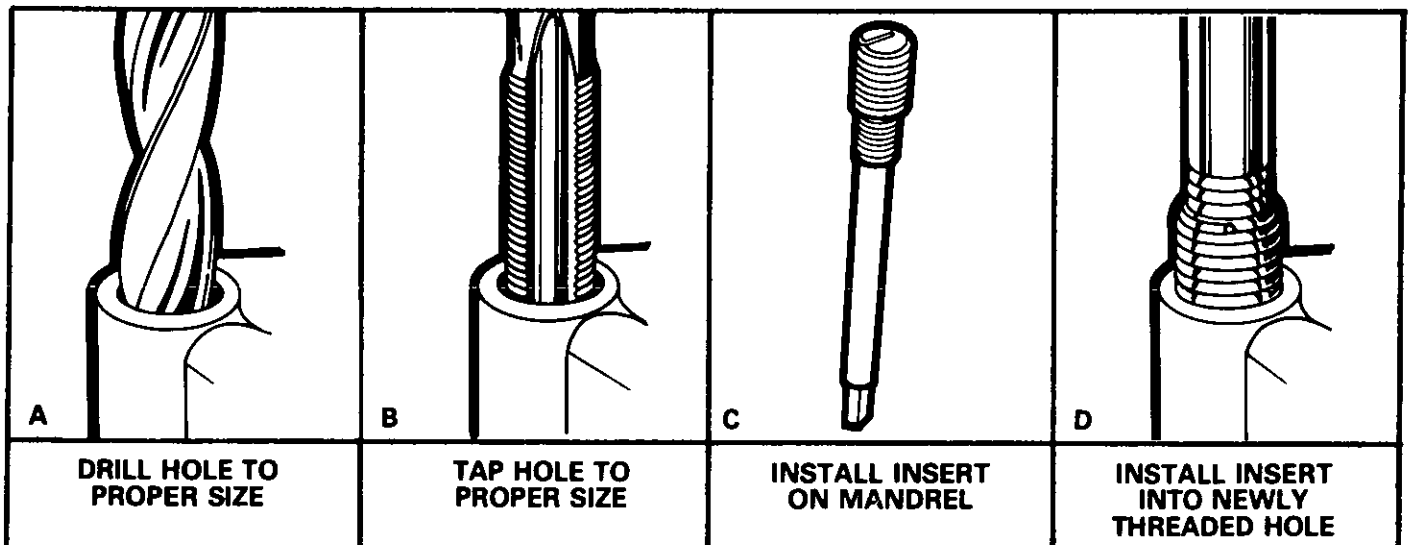

Figure 57 Repairing Threaded Holes
4. Thread the thread insert onto the mandrel of the installer (Figure 57). Engage the tang of the insert onto the end of the mandrel.